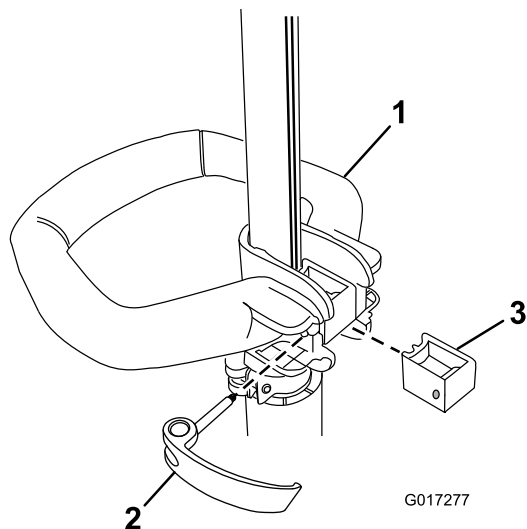

Figure 1
1. Position the auxiliary handle on the shaft of the trimmer with the smooth surface facing the operator (Figure 1).
2. Slide the brace into the auxiliary handle so that the brace rests in the groove along the shaft (Figure 1).
3. Slide the latch from the left through the handle and brace, and tighten the latch screw with a Phillips screwdriver (Figure 1).